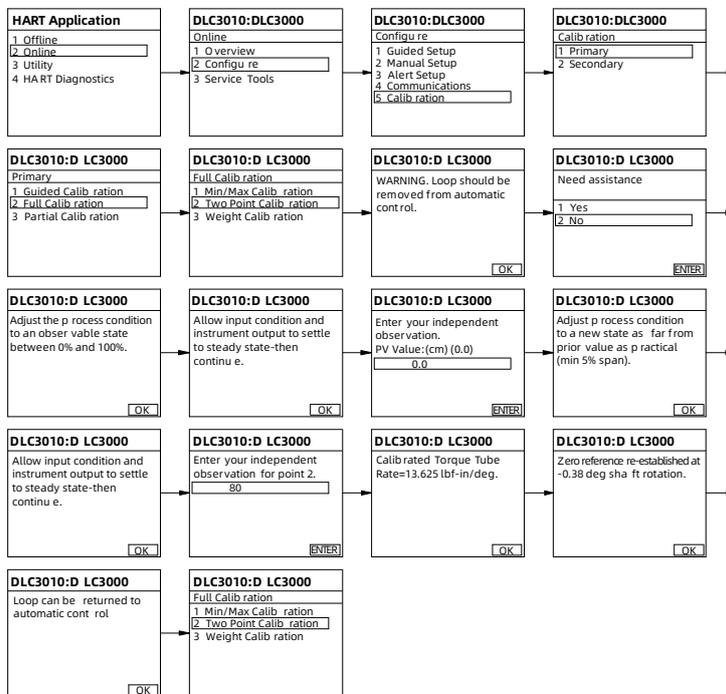

Figure 12
2) Two-point calibration method: Hang the inner cylinder on the lever, operate the handheld device, and enter HART. Select Menu 2 (Online) to 2 (Configure) to 5 (Calibration) to 1 (Primary) to 2 (Two Full Calibration) to 2 (Two Point Calibration) to click OK to select NO, press ENTER to adjust the level to 0, and click OK to enter the level value 0.0, click ENTER to adjust the level to 100% in this interface. After adjusting, press OK to enter the level value (example 800mm), click ENTER, click OK 2 (Two Point Calibration), the setting is completed (Figure 12, menu conversion right click).